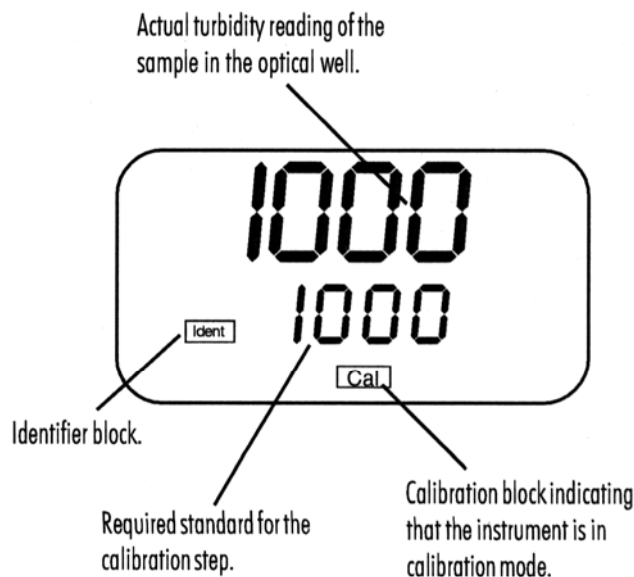

Figure 3
2. The turbidity value displayed in the lower row of the display should read 1000 NTU. This is the first standard that must be used in calibration. Insert the 1000 NTU calibration standard into the sample well (see figure 3) and index to the lowest value (see section 5.1 if you have not already indexed the standard) and wait for the reading to stabilize.